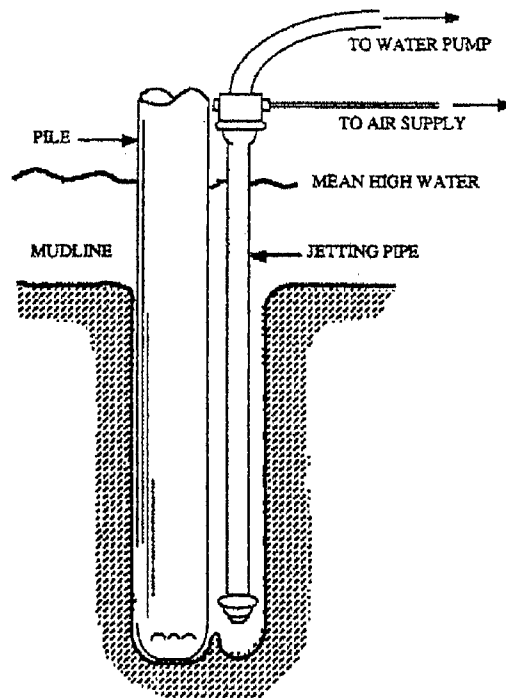

Fig. 10-2 Jetting with a single jet pipe
- a. Jetting is the use of water pressure supplied through a pipe along the side of the pile to facilitate pile driving (See **Figure 10-2.**) The purpose of jetting is to loosen the soil under the point by water pressure. It is most useful in sinking piles when pile driving equipment is lacking. It may be used alone or with compressed air or a weighted pile. A weighted pile is one with a sinker, or other heavy object, resting on top of the pile.